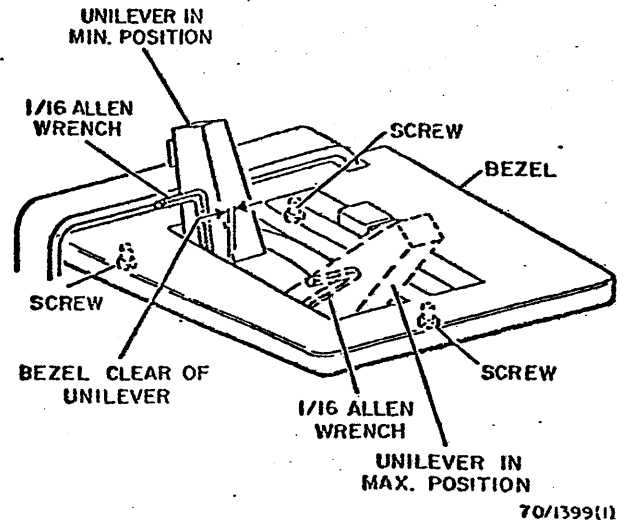

Fig. 3-35. Bezel
2. Loosen the hardware and adjust if necessary (Fig. 3-35).